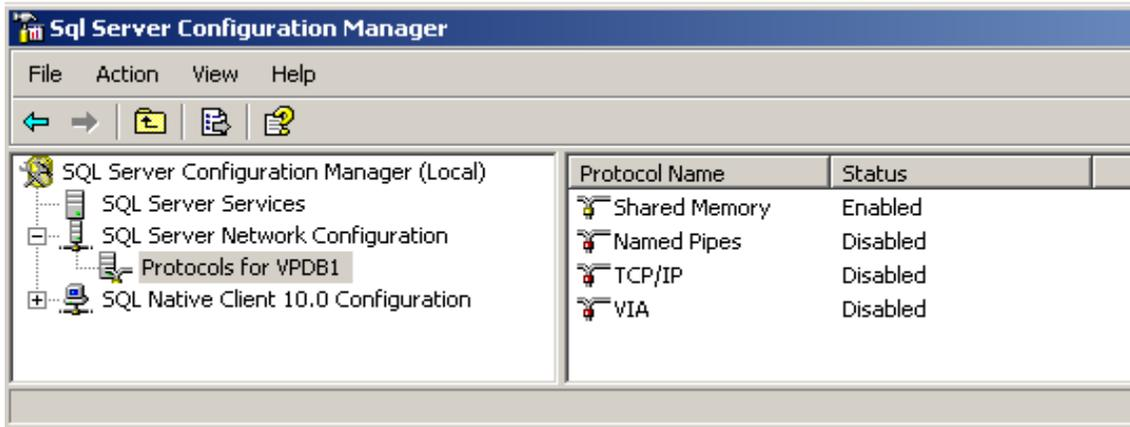

Figure 36
- o Double click on "**Protocols for <instance name>**". On the list of Protocols for the current instance (**Figure 36**), enable TCP/IP.